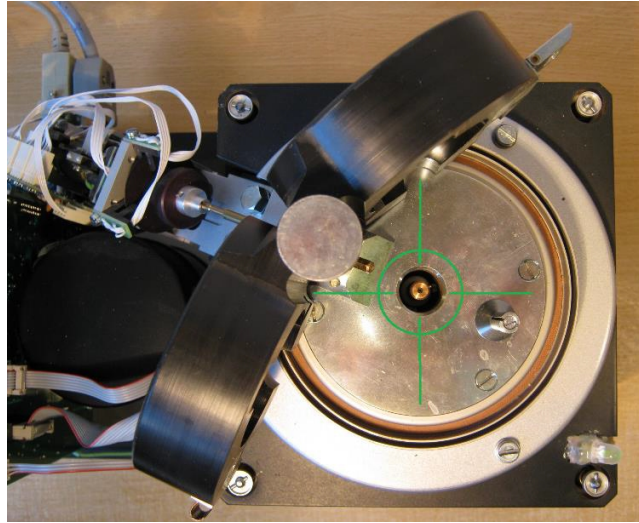

Figure 9: Main shaft in correct position
3. Remove sample holder and check if the axis of main shaft is in the middle of the circle plate, as it is marked by the green circle in Fig. 9.